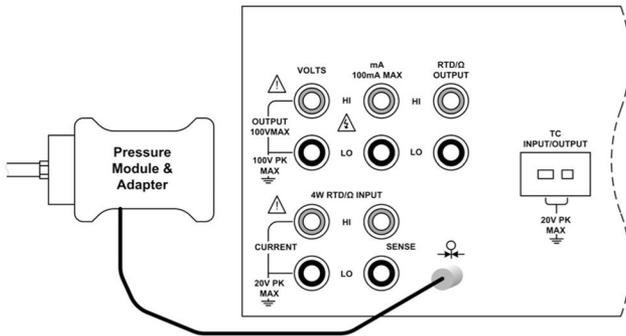

Figure 16 - Pressure Module Connection
- a) Connect the pressure module to the PD9500 as shown in figure 16.